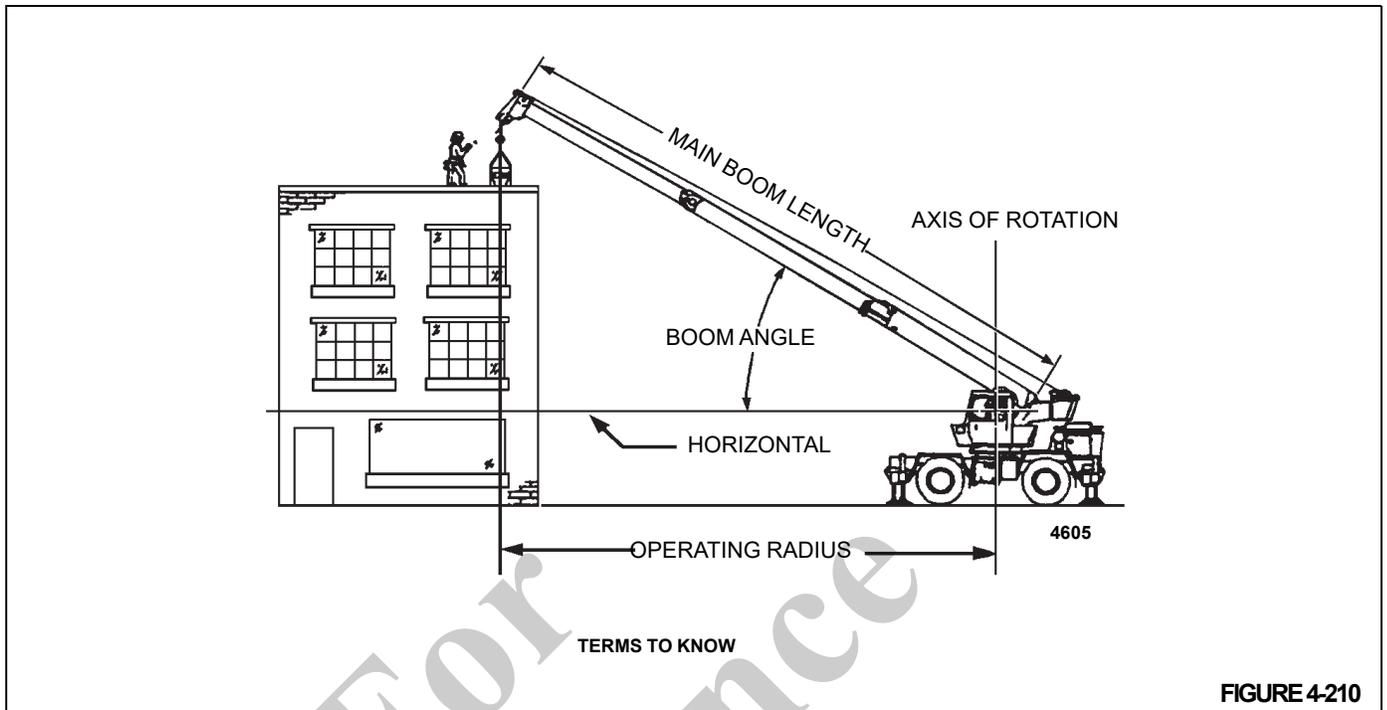

FIGURE 4-210
**NOTE:** Refer to Figure 4-210 for terms to know in determining lifting capacities.